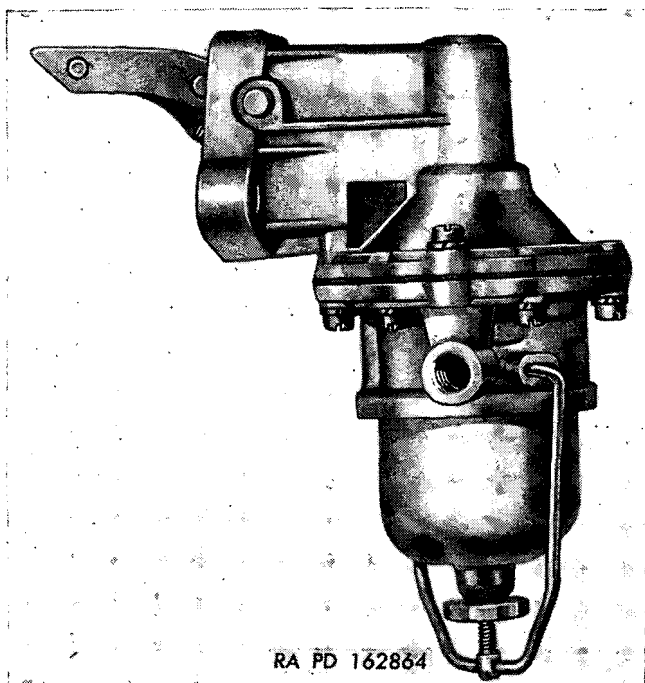

Figure 38. Fuel pump, series AT.
- (1) Mark edges of top cover and body of series AT fuel pump (fig. 38) with a file. Mark at heat shield stud, if used. The parts may then be assembled in the same relative positions and heat shield stud properly located.
- (2) Remove cover screws and lock washers. Also remove heat shield stud, if used. Separate cover from body by jarring cover loose with a light plastic hammer.